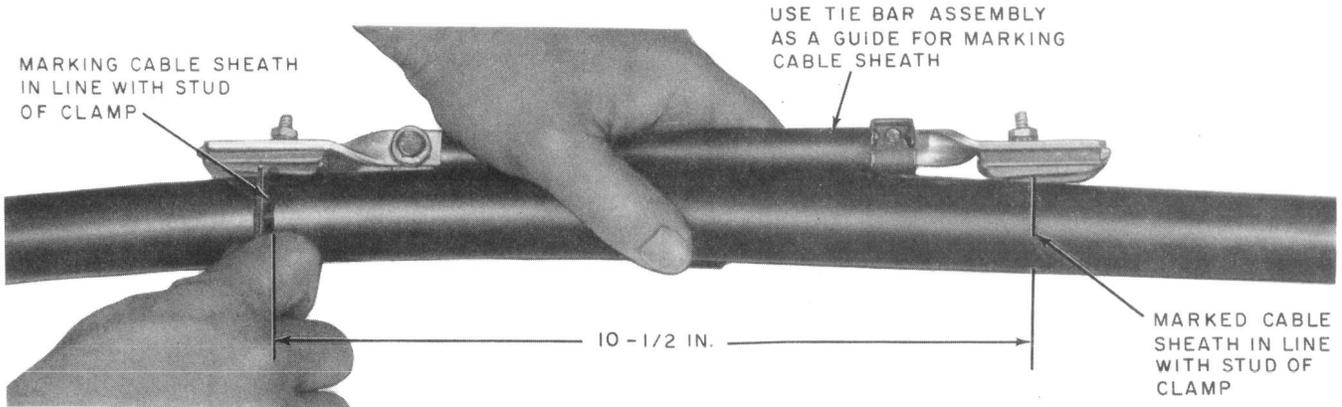

Fig. 3—Marking Cable Sheath
3.01 Using the tie bar assembly as a guide, mark the cable sheath as shown in Fig. 3. The distance between the marks should be 10-1/2 inches.